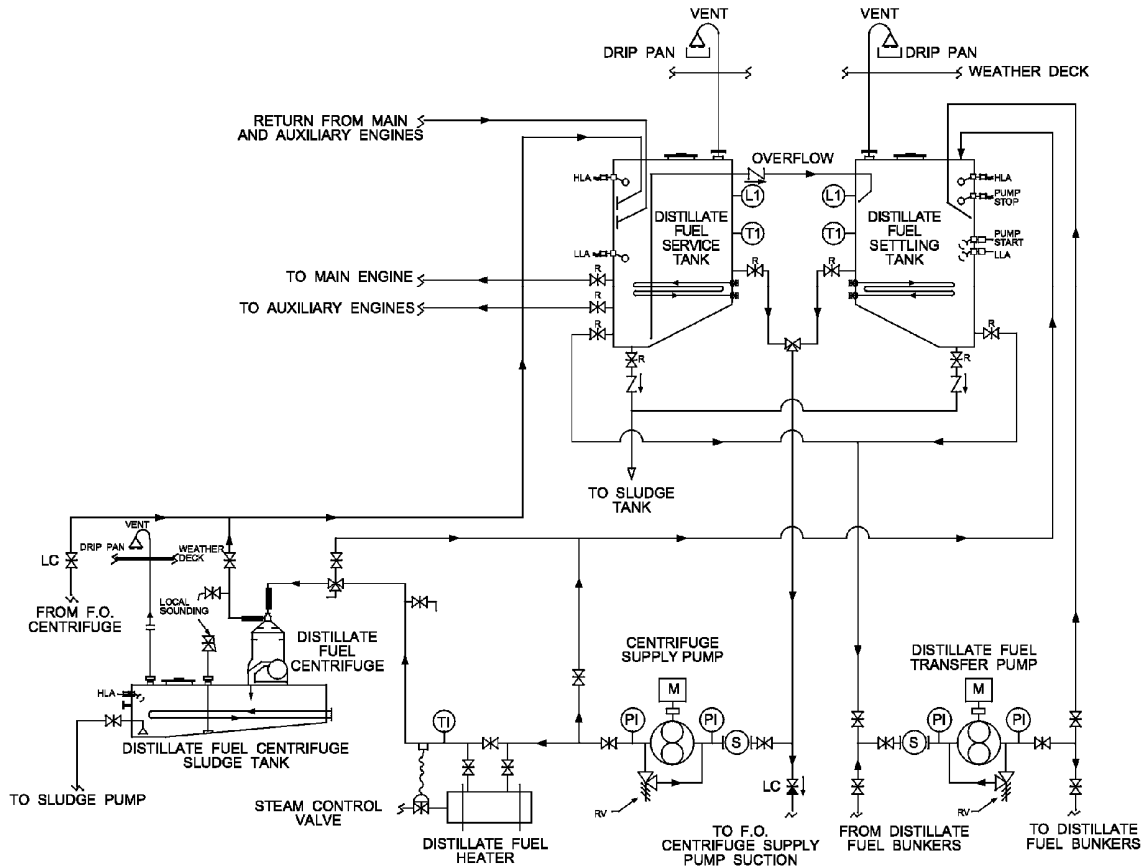

Figure 9
The centrifuge represents the most expensive and complex method of water separation, but it is the most effective. It is used extensively in marine, offshore and power generation applications where a continuous power supply is essential, and the continuous supply of clean fuel cannot be left to chance. A typical distillate fuel centrifuge schematic is shown in **Figure 9**.
While **Figure 9** shows a single centrifuge schematic, many applications will require the use of two (2) centrifuges, with one of the centrifuges acting as a standby.
If the installation warrants, used lubricating oil can be blended and used in the engine in a continuous manner. The normal method uses a centrifuge module similar to **Figure 9**. The following information describes this system.